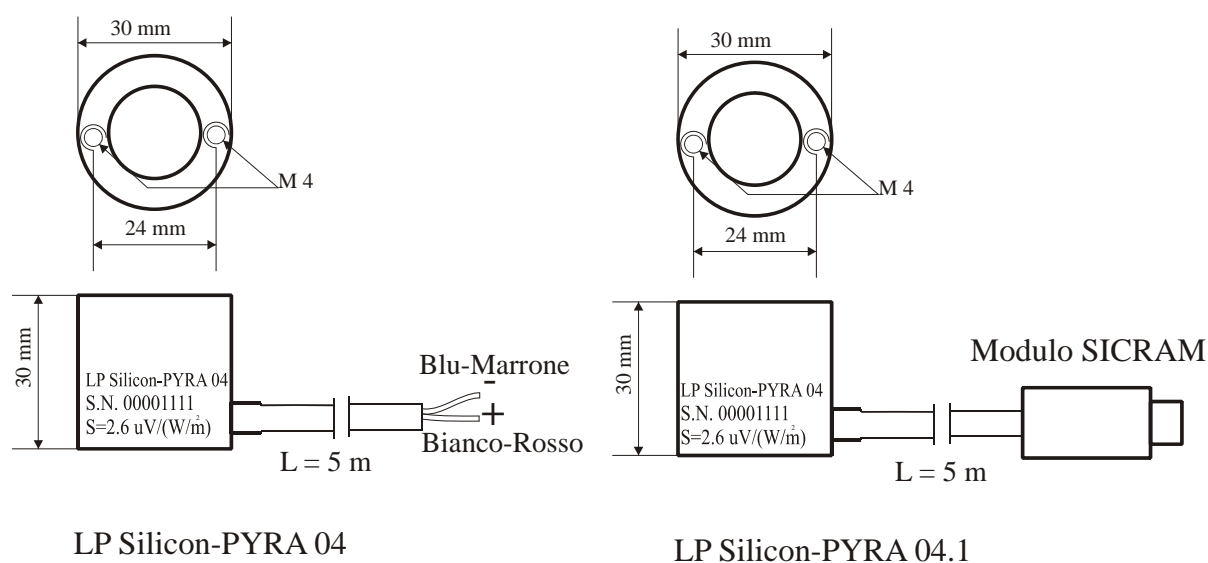

Figure 5
- LP Silicon-PYRA 04 with 5m fixed cable and open wires on the cable end (Figure 5), typical output $20 \mu\text{V}/(\text{W}/\text{m}^2)$.
LP...Silicon-PYRA... can be used outdoor for long periods. The probe can be fixed by two M4 threaded holes that are located on the base (Figure 5) or through the levels based LP BL.